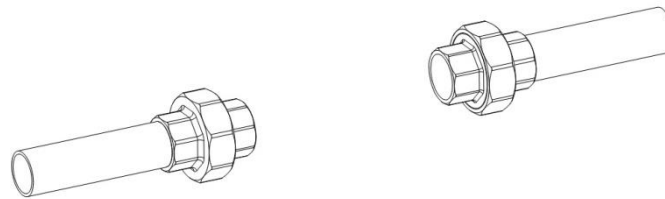

Figure 5-2-1 Meter Mounting Diagrammatic Sketch
- 1) Cut off the installation instrument of the water supply pipe section to leave the installation location of the instrument and its connecting accessories, as shown in Figure 5-2-1.